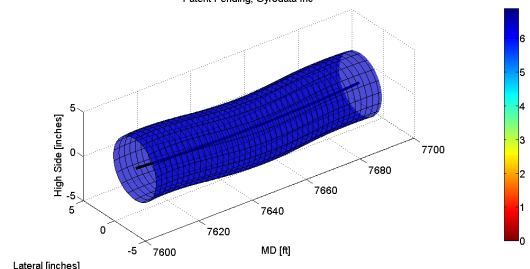

Fig. 2—Our recommended ESP placement if a deeper set depth would enable optimized production.
- We recommended a deeper set depth at 7,650 ft (**Fig. 2**) to achieve optimized production.